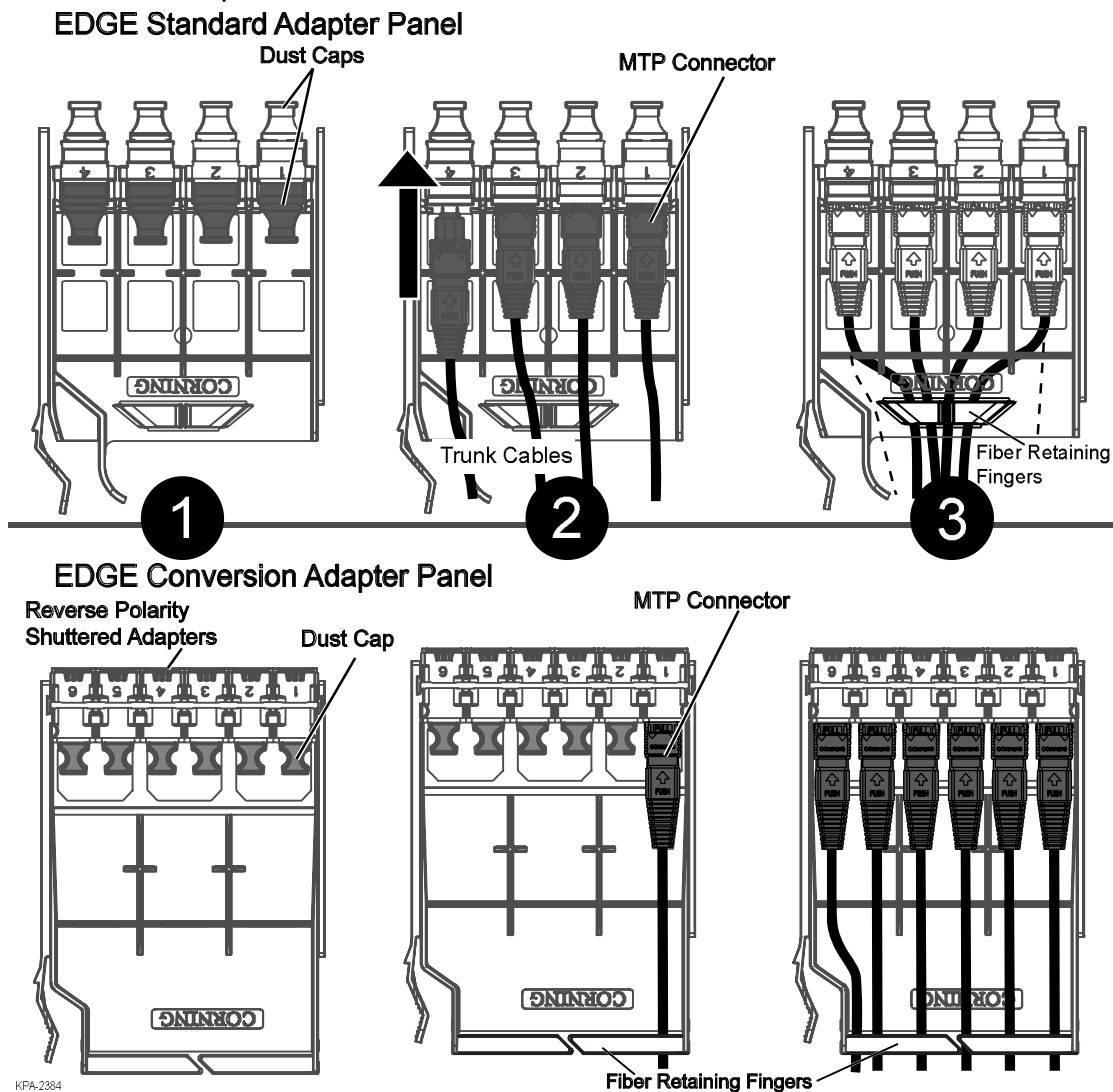

Figure 21 — Install MTP Trunk Cables into Adapter Panel.
- Step 2: Mate the MTP connector(s) into the rear of the adapter(s) (Figure 21).